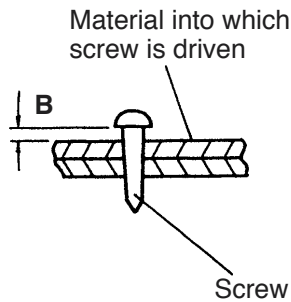
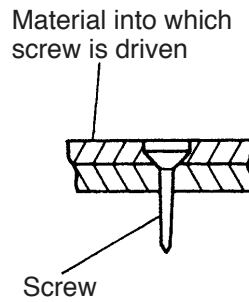
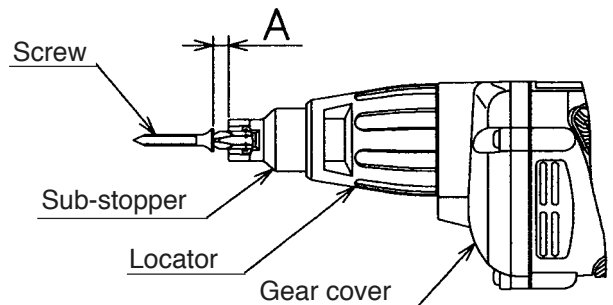

Fig. 1
Fig. 2
Fig. 3
(1) Head of screw protrudes above workpiece surface (Fig. 1).
If dimension A in Fig. 3 is excessively small, the head of the driven screw will protrude above the surface of the workpiece material as shown in Fig. 1. To adjust dimension A, rotate the locator clockwise as viewed from the screw mounting end (see Note below). Repeat adjustment as necessary until the head of the driven screw is properly aligned with the surface of the workpiece.
(2) Head of screw sinks below workpiece (Fig. 2).
If dimension A in Fig. 3 is excessively large, the head of the driven screw will sink below the surface of the workpiece as shown in Fig. 2. To perform adjustment, follow the procedures described in item (1) above, but rotate the locator counter-clockwise.
**(NOTE)** By turning the locator clockwise or counter-clockwise, dimension A in Fig. 3 can be adjusted within a maximum dimension of 1.5 mm (0.059"). One complete rotation of the locator is divided into twelve settings, each setting permitting an adjustment of 0.125 mm (0.005"). Accordingly, if dimension B in Fig. 1 is 0.25 mm (0.010"), rotate the locator by two settings.